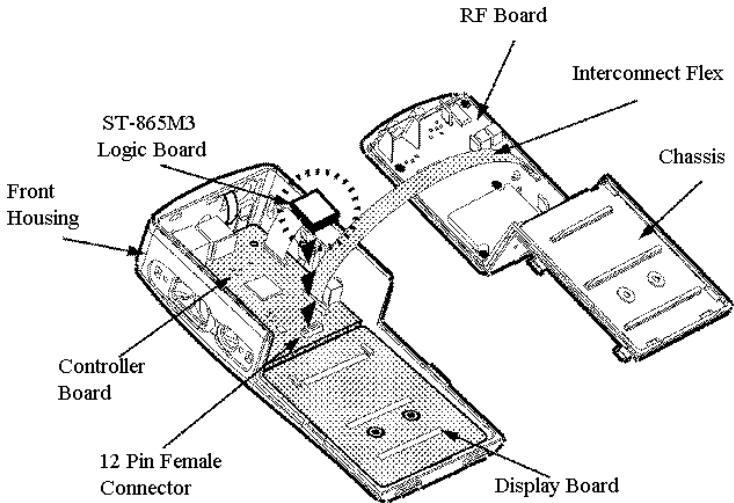

Figure 3-4 • Exploded View of the radio with Optional SmarTrunk II Logic Board
- b. Orientate the ST-865M3 Logic Board so that the 12 pin male connector is at the lower edge and facing downwards. (See figure 3-4)